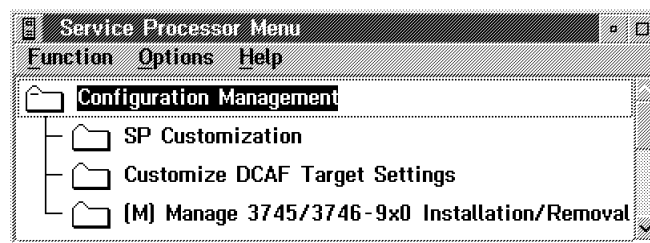

Figure 2-11. service processor Configuration Management Functions
All maintenance functions are identified by an **(M)** preceding the text (example: see Figure 2-11 function "(M) Manage 3745/3746-900 Installation/Removal").